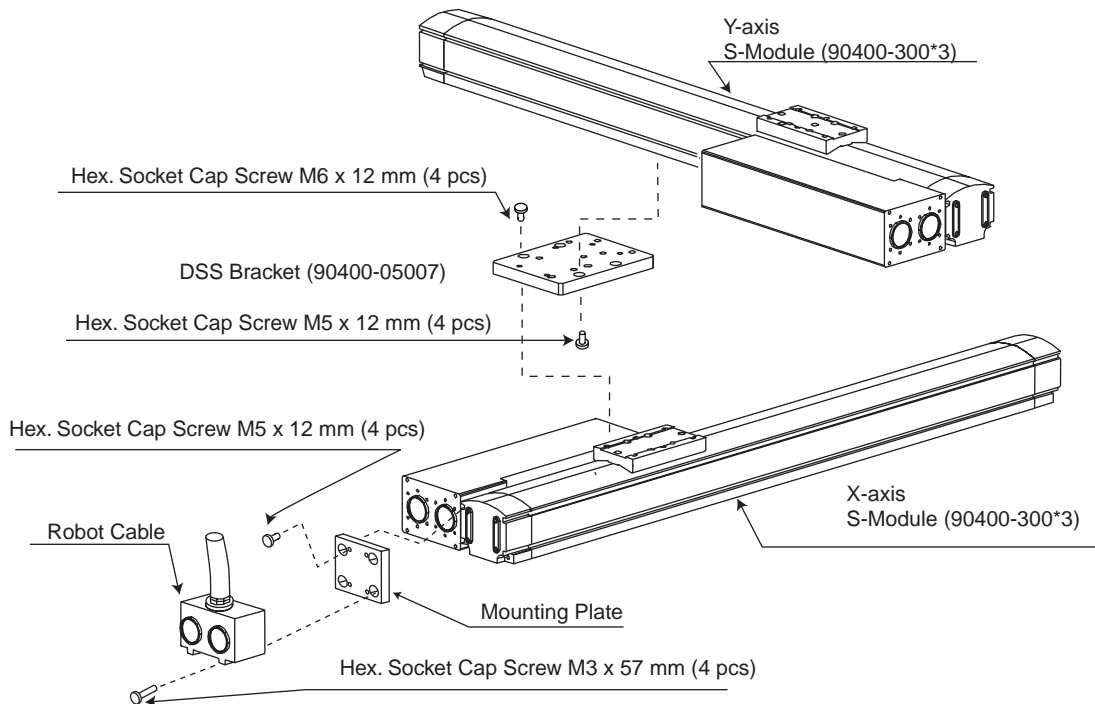

Figure 4-23. D-4 Type Mechanical Assembly
4. Mount the Y-axis with combining bracket by aligning the pin holes on the X-axis module slider. Carefully mate the pins and pin holes to avoid damaging the pins. Install the mounting bolts (see Figure 4-23, and refer to Table 3-3 for the mounting bolt specifications).